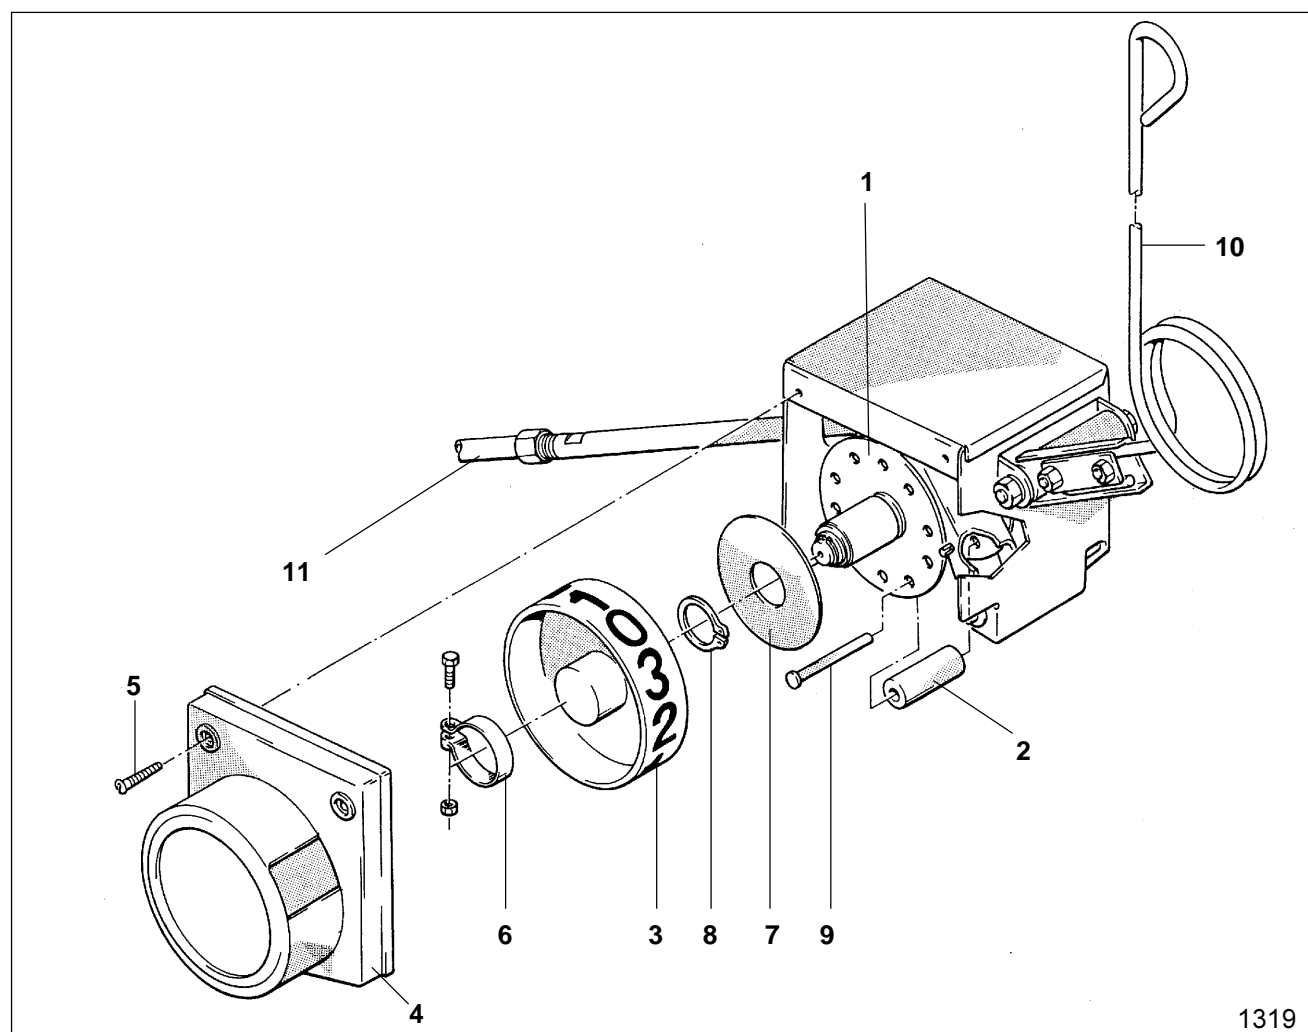

Fig. 18.33
- Mount securing disc (Fig. 18.33/7) and circlip (Fig. 18.33/8).
- Now provide the counter wheel (Fig. 18.33/3) with a new number tape as shown in para. 18.9.2 and first fix loosely with a clamp (Fig. 18.33/6) to the ratchet wheel drum.
- Switch over the switch box on the control spring (Fig. 18.33/10) until the clamping tube (Fig. 18.33/11) is pulled by a trip roller (Fig. 18.33/2) and held in this position. The protective cover (Fig. 18.33/4) is held to the switch box and the counter wheel (Fig. 18.33/3) is turned until the figure "0" shows up in the window of the protective cover.
- Fix the counting wheel (Fig. 18.33/3) by the clamp (Fig. 18.33/6) and mount the protective cover (Fig.
- Switch over the switch box by the control spring (Fig. 18.33/10) until the counter wheel (Fig. 18.33/3) has made at least three complete turns and check whether the switch box functions properly, i. e. whether in every "0" position the spindle clamping tube (Fig. 18.33/11) is pulled properly.